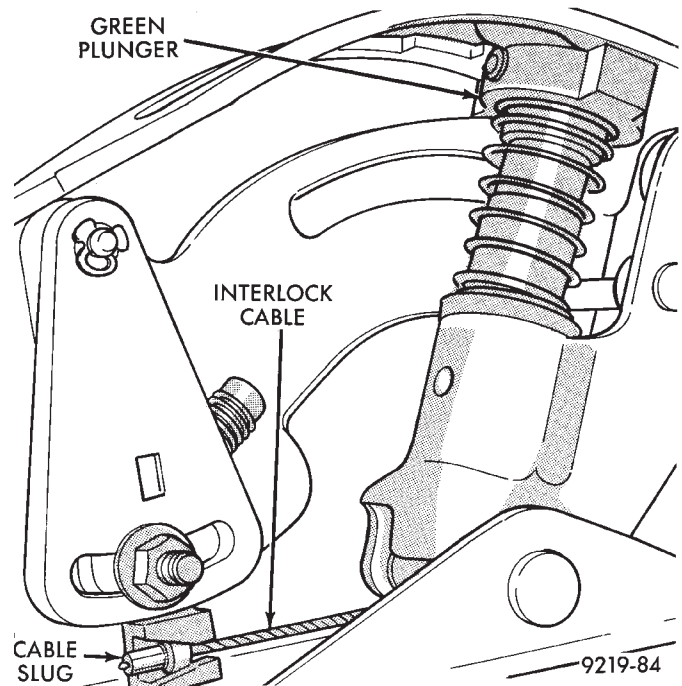

Fig. 3 Plunger Position For Interlock Adjustment
(4) Place the shifter in PARK, and ensure that the green plunger (Fig. 3) on the shifter mechanism is in the full up position.
(5) Check that the interlock cable slug is completely seated into the shifter interlock lever (Fig. 3).